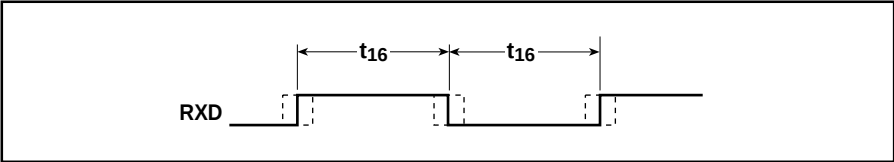

Fig. 8 Bit period of received data
13. Receiver Data Bit Period (t_{16} – see Fig. 8)